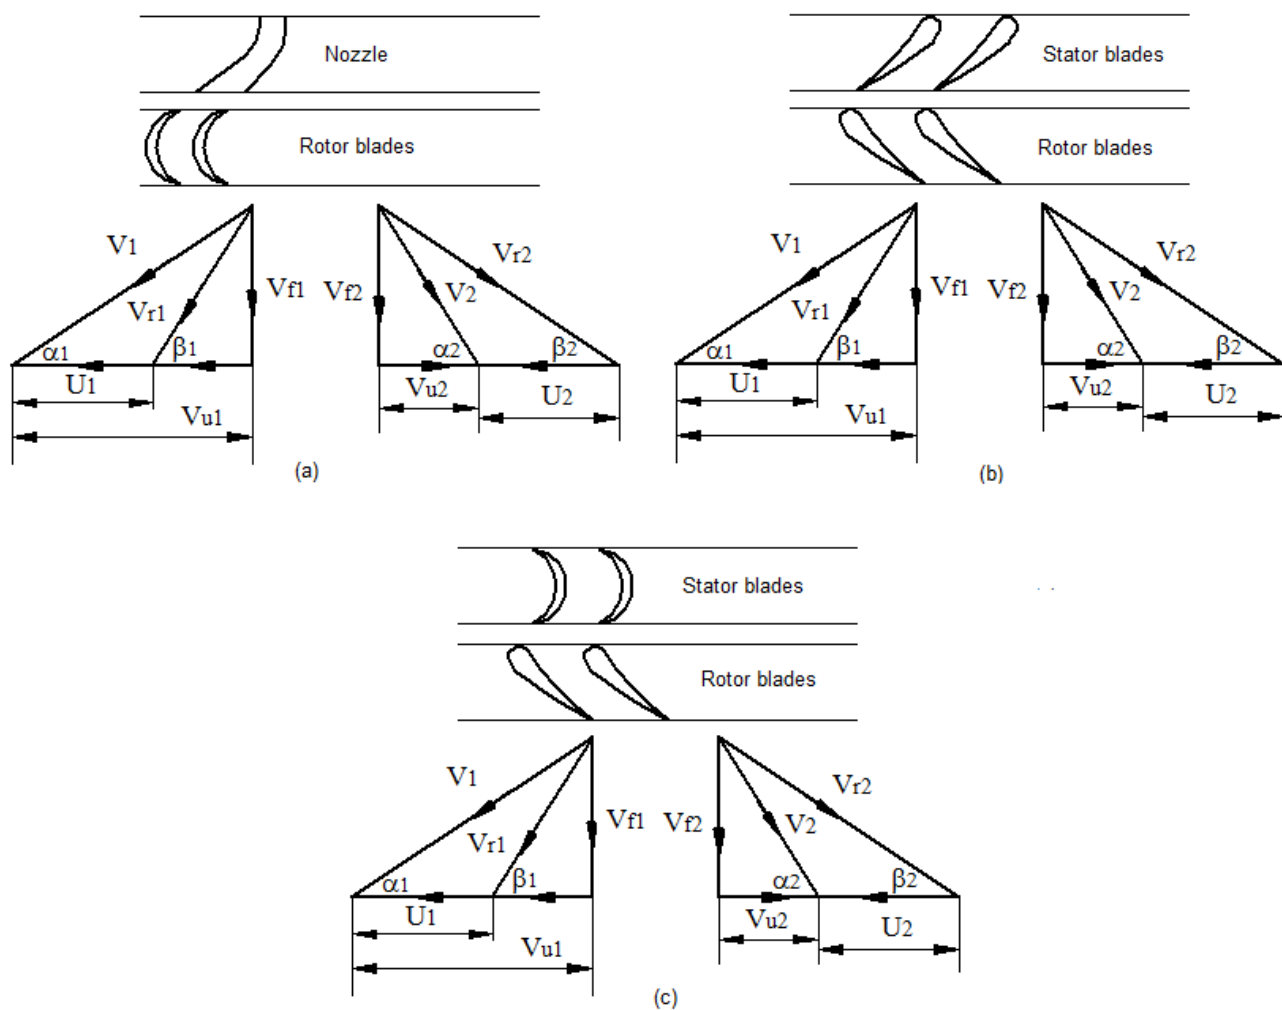

Fig. 3.6 Velocity triangles for axial flow turbine  $R = 0$ ,  $R = 0.5$  and  $R = 1$
**Answer:** For impulse axial flow turbine,  $R=0$ , thus  $V_{r1}$  should be equal to  $V_{r2}$  and if the blades are equiangular then,  $\beta_1=\beta_2$  as shown in figure 3.6 (a). Here energy transfer is purely due to change in dynamic pressure.
For 50% reaction axial flow turbine,  $R=0.5$ , thus  $(V_1^2 - V_2^2) = (V_{r2}^2 - V_{r1}^2)$  and if the stator and rotor blades are symmetric (two blades are identical but orientations are different) then,  $\alpha_1=\beta_2$  and  $\alpha_2=\beta_1$  and also  $V_1=V_{r2}$  and  $V_2=V_{r1}$  as shown in figure 3.6 (b). Here energy transfer due to change in dynamic pressure is equal to energy transfer due to change in static pressure.
For fully (100%) reaction axial flow turbine,  $R=1$ , thus  $V_1$  should be equal to  $V_2$  and also  $\alpha_1=\alpha_2$  as shown in figure 3.6 (c). Here stator acts purely as a directional device and doesn't take part in the